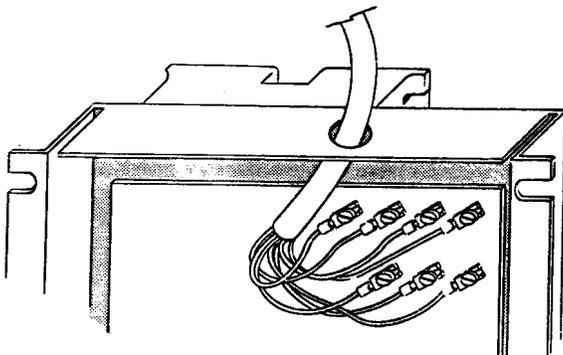

Fig. 4
3.03 Lead PC of the M-19 can be used as a locking path for an auxiliary circuit such as paging. PC is closed to LG which is factory wired to AUD GRD (and the AC GRD screw terminal). Either the LG or AUD GRD lead must be connected to the external lamp supply ground except when the CA7 Power Cable Assembly is used. (The AC GRD screw terminal is connected to the power supply when the CA7 is used.) Fig. 4 shows the underside of M-19 printed circuit board and screw connections for power cable.